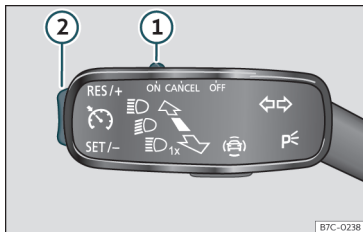

Fig. 206 On the turn signal lever: controls for operating the GRA.
- Move the control >>> **Fig. 206 ①** to **ON**.
- Press button >>> **Fig. 206 ②** in area **SET/-**.
- Move the control >>> **Fig. 206 ①** to **CANCEL** or step on the brake.
- Press button >>> **Fig. 206 ②** in area **RES/+**.
While the GRA is set, the stored speed can be adjusted with button >>> **Fig. 206 ②**:
- To increase in increments of 1 km/h (1 mph) briefly press button >>> **Fig. 206 ②** in the area **RES/+**.
- To increase the speed without interruption, keep button >>> **Fig. 206 ②** pressed down in the area **RES/+**.
- To reduce in increments of 1 km/h (1 mph) briefly press button >>> **Fig. 206 ②** in the area **SET/-**.
- To reduce the speed without interruption, keep button >>> **Fig. 206 ②** pressed down in the area **SET/-**.
- Move control >>> **Fig. 206 ①** to **OFF**.